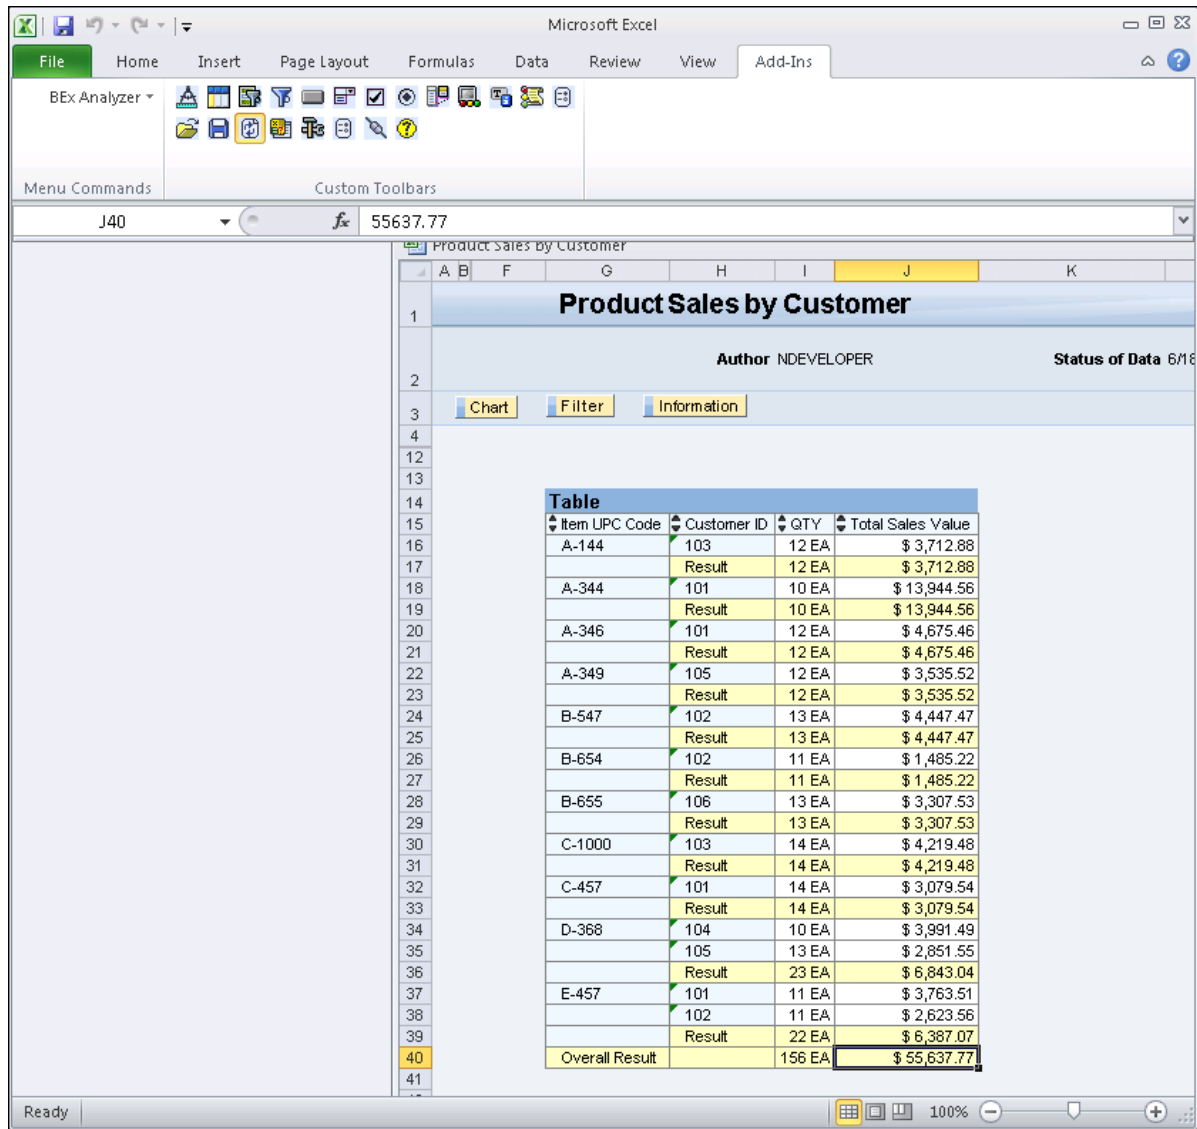

Figure 6-35: The report generated from the classified InfoProvider is displayed only to members of the US Users component
- When the user selects the classified InfoProvider NextLabs DSO2, then runs the DSO, or an InfoCube or query that is derived from the DSO, Dynamic Authorization Management allows only members of the US Users component to view the generated report, as shown in Figure 6-35.